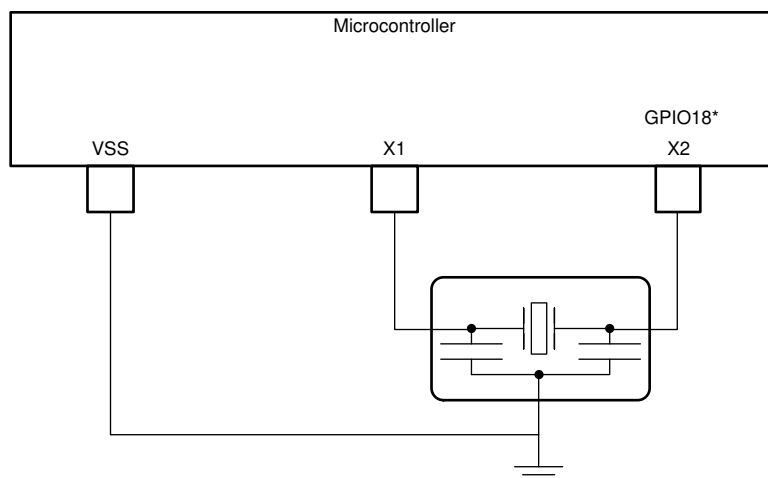

**Figure 7-19. External Resonator**
- An external resonator. The resonator should be connected across X1 and X2 with its ground connected to VSS as shown in Figure 7-19.